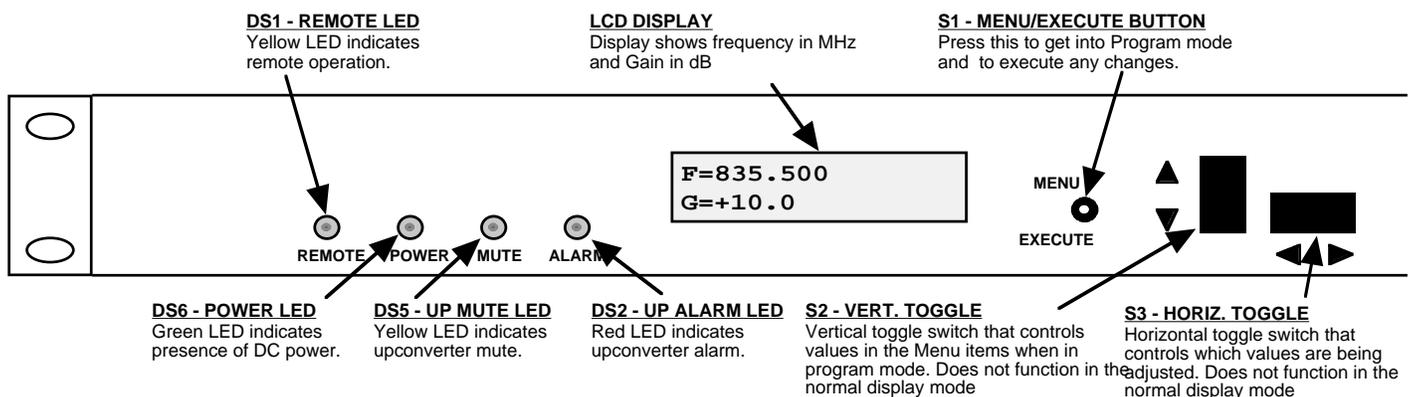

FIGURE 2.3 Front Panel Controls and Indicators
2.3 Front Panel Controls and Indicators - Figure 2.3 shows the front panel controls and indicators.
6. Be sure DS6 (green, DC Power) is on and DS2 (red, Alarm) is off (Figure 2.3).
Alarm indications appear on the LEDs (see figure 2.3).